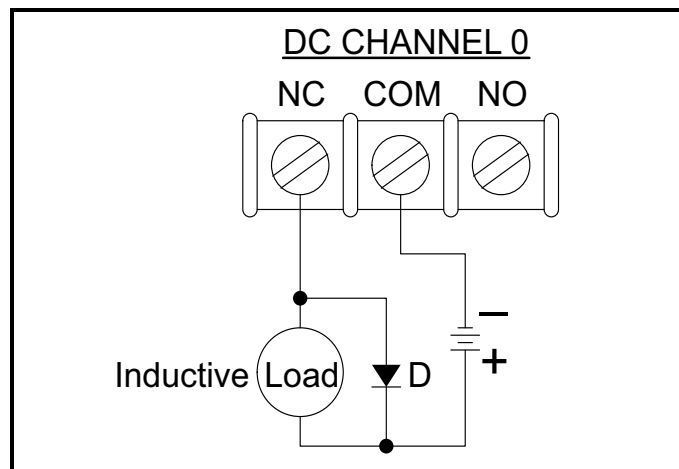

Figure 31: DC Voltage Connection
**DC Voltage -Inductive Load.** Place a diode (D) across the load at the source of the noise but never across the terminals of the contact output card. See Figure 31.